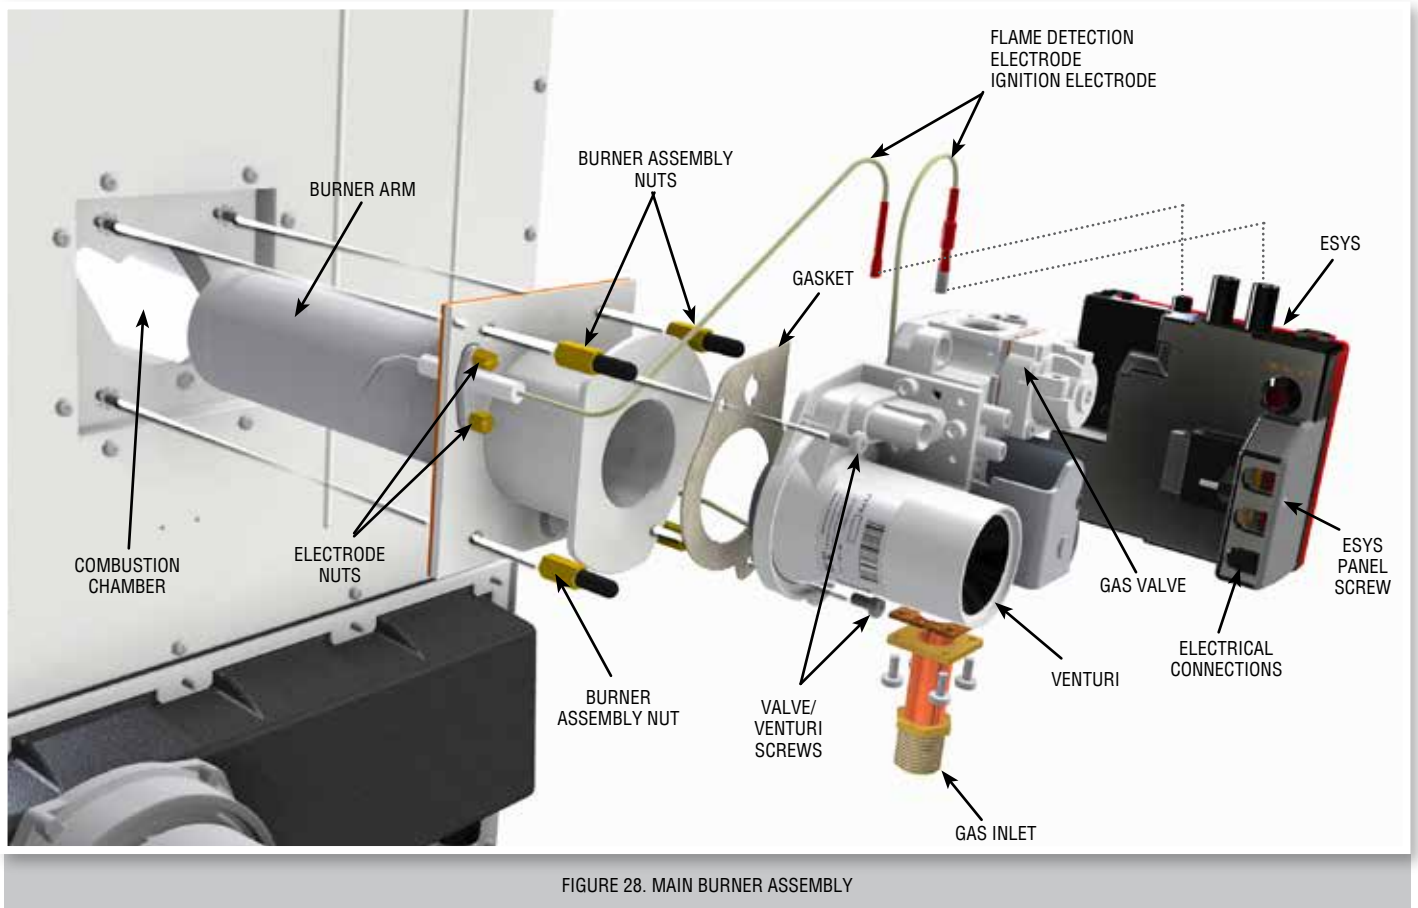

FIGURE 28. MAIN BURNER ASSEMBLY
17.9.1 Refer to section 16.3 and See Figure 28.
- 17.11.1 Refer to section 16.3 and Figure 28.